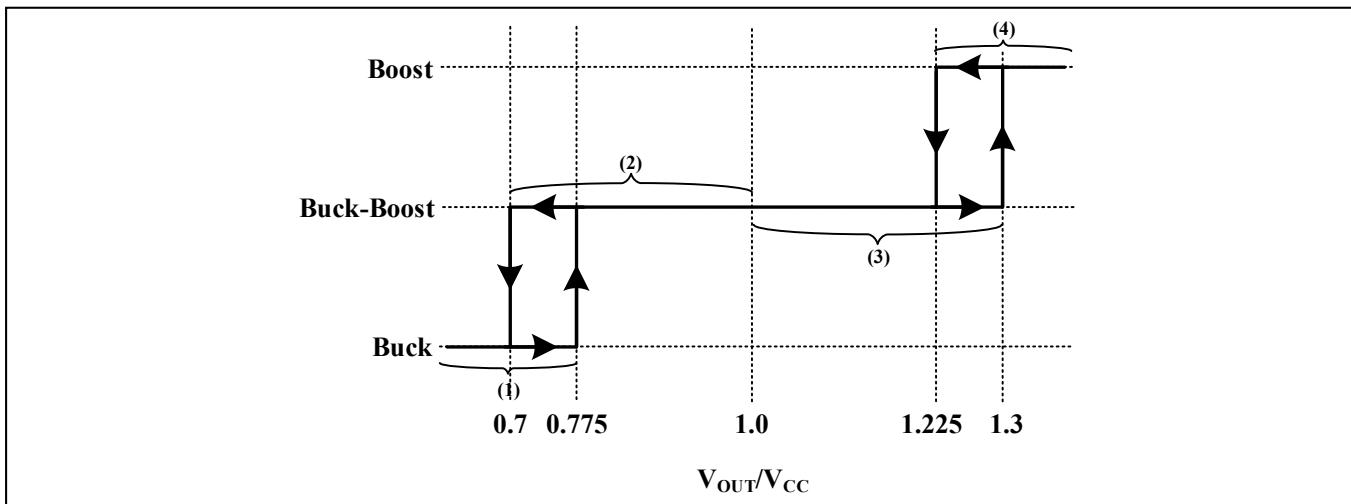

Figure 29 Operation Regions vs. V_{OUT}/V_{CC} Voltage Ratio
input V_{CC} , power output V_{OUT} , and ground. The current sense resistor R_{CS} connected to CS pin provides inductor current information for both peak current detection of Boost control loop and reverse valley current detection of Buck control loop. The input current sense resistor R_{INSEN} connected to VCC and INSENSE pins is a secondary protection to protect input over current fault. The operation region is decided by the V_{OUT}/V_{CC} voltage ratio. The power switches are properly controlled to smoothly transition between regions. The hysteresis is added to prevent jittering between regions. As Figure 29.
As Figure 29, there are three operating states decided by the V_{OUT}/V_{CC} voltage ratio: (1) the operation mode is in constant ON-Time Buck region, (2) and (3) the operation mode is in constant ON-Time Buck and peak